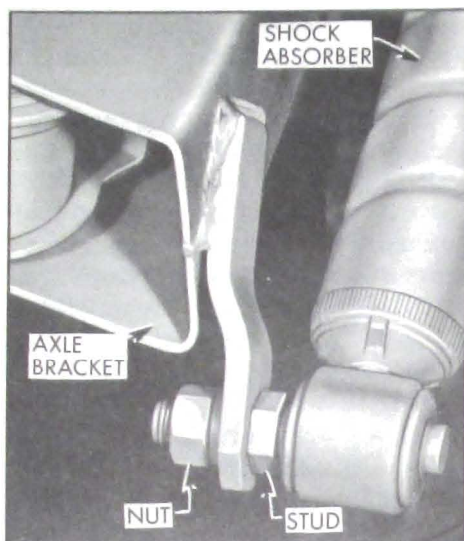

Figure 7-33—Rear Shock Absorber Lower Attachment
**NOTE:** When performing any work requiring rear shock absorber removal or loosening of the shock absorber lower mounting nut, it is most essential that the stud be prevented from turning. A hex is located on the stud between the axle bracket and shock absorber lower bushing in order that a wrench may be used for this purpose. Failure to hold the stud in this manner will result in damage to the mechanical bond between the shock absorber bushing and the lower mounting stud. See Figure 7-33.